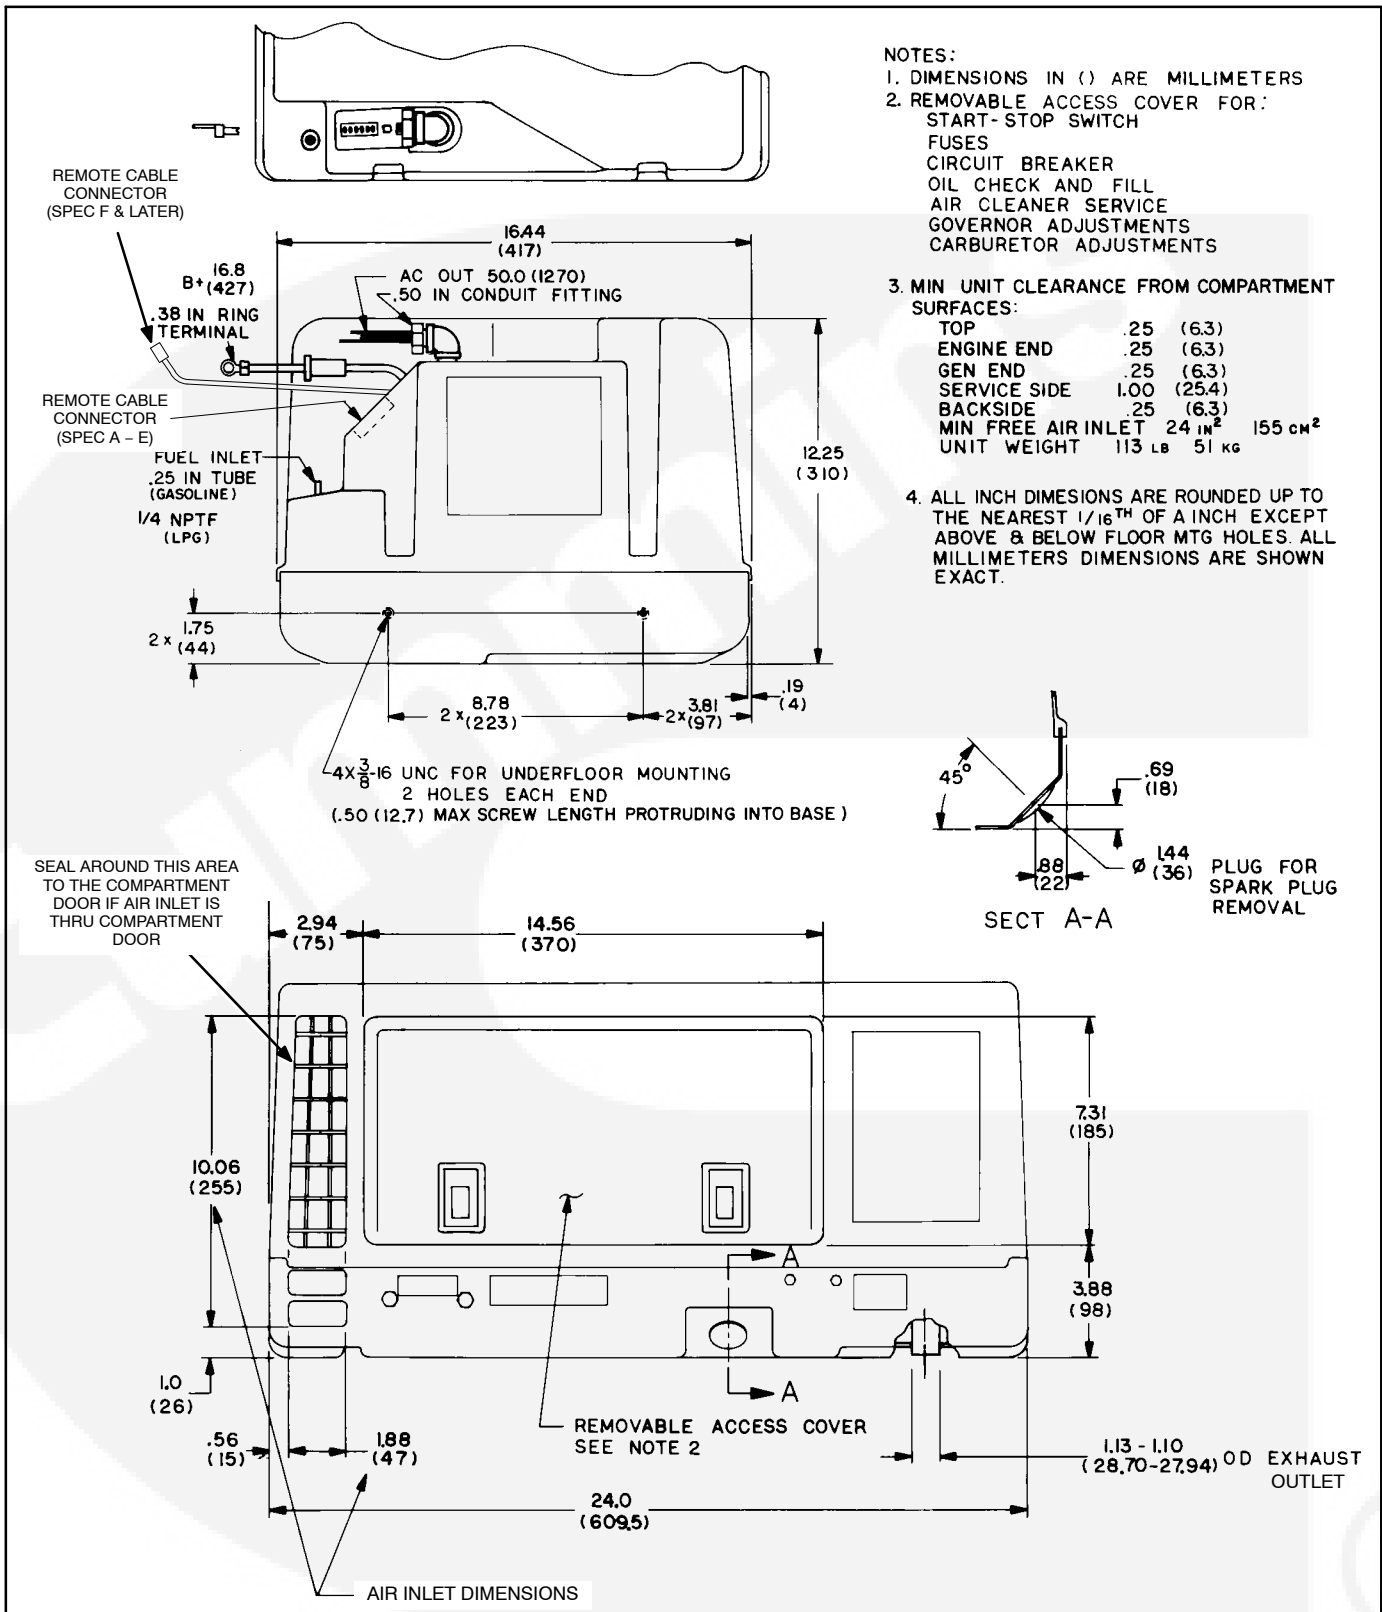

FIGURE 4-1. COMPARTMENT MOUNT OUTLINE
Minimum compartment dimensions are shown in Figure 4-1. Clearances between the genset and the compartment are included in these dimensions.
1. Install the genset in its own compartment. Allow a minimum of 1 inch (25.4 mm) spacing at the front of the set and a minimum of 1/4 inch (6.4 mm) clearance on the sides, back and top of the set. See Figures 4-1 and 4-2.
6. Secure the genset mounting base to the support frame with four 3/8-16 UNC grade 5 screws. The mounting bolts must not extend more than 1/2 inch (13 mm) into the base. See Figures 4-1 and 4-2. Torque 3/8 inch mounting screws to 35 ft lbs (47 N•m).
When designing the air inlet and outlet for the set compartment (see Figures 4-1 and 4-2), allow for the restriction of grilles and ductwork: some expanded metal grilles provide as little as 60 percent free air inlet area per square foot. The most efficient grille provides only 90 percent free inlet area per square foot. Obtain the free inlet area of the grille material from the material supplier. Multiply the grille area by the free area percentage to get the free inlet area.
⚠ WARNING *High temperatures in the compartment can present the hazard of fire, which can result in severe personal injury or death. To meet ANSI and CSA temperature rise requirements for vehicles, the layer of insulation must not reduce the minimum compartment size specified in Figure 4-1.*